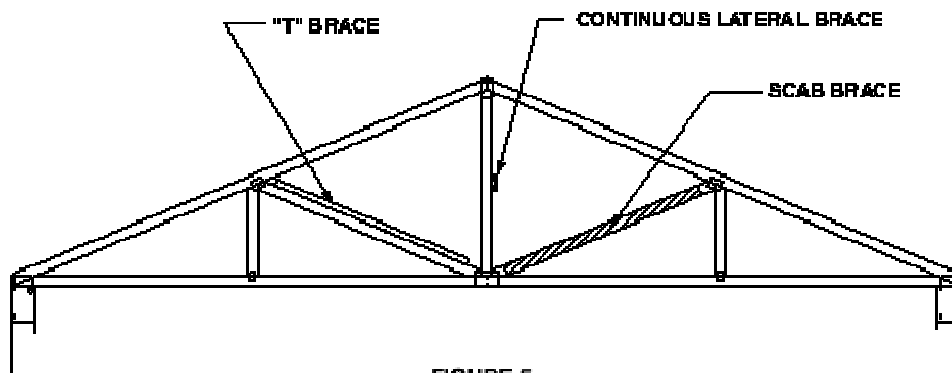

FIGURE 5
The three most common methods of bracing individual truss members are: (See in figure 5)
- **Continuous lateral bracing** is generally used when the members of adjacent trusses line up with each other. A 1x4, 2x4, or larger brace is run across the truss member and the adjacent members, perpendicular to the trusses. If one brace is required, it is placed at about the midpoint of the webs to be braced as shown in figure 5. If two braces are required due to a higher compressive force, they are placed at about the third points of the webs. The continuous lateral bracing must be restrained at the ends to prevent all the webs from buckling in the same direction. This is accomplished by fastening the ends of the lateral bracing to an appropriate point of the building structure, or by adding additional diagonal bracing at the ends, and intermediate intervals, to brace the lateral bracing.